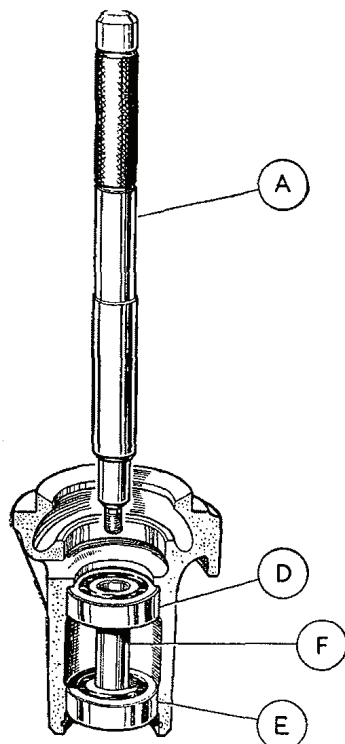

Fig. C.5
Insert the driver (A) (Fig. C.5) into the rear bearing (D) and tap downwards until the front bearing (E) and the distance piece (F) are released.